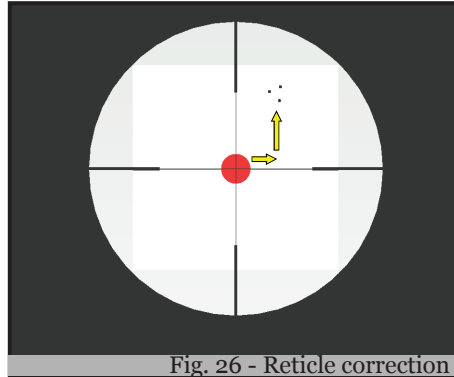

Fig. 26 - Reticle correction
3. Adjust the sight (elevation and windage) so that reticle moves to the center of the shot grouping (Fig. 26).